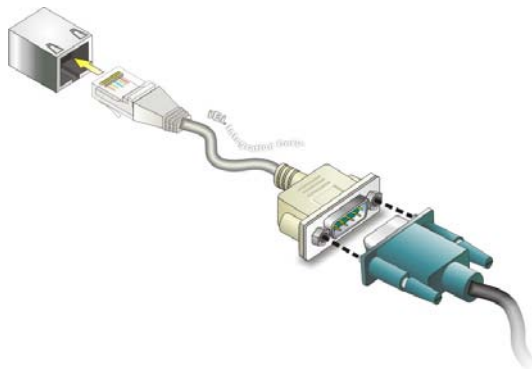

Figure 3-25: RJ-45 RS-232 Serial Device Connection
Step 2: Insert the RJ-45 connector. Insert the RJ-45 connector on the RJ-45 to DB-9 COM port cable to the RJ-45 RS-232 connector on the UPC-V315-QM77. See **Figure 3-25**.
- Step 2: Insert the RJ-45 connector.** Insert the RJ-45 connector on the RJ-45 to DB-9 COM port cable to the RJ-45 RS-422/485 connector on the UPC-V315-QM77. See **Figure 3-25**.